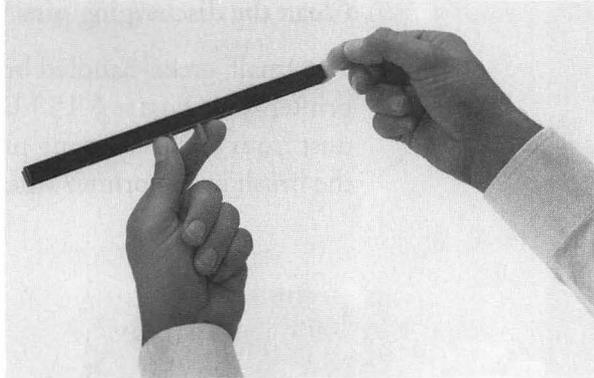

Figure 6-12 Removing the felt tip
5. Remove and discard the white felt tip. (See Figure 6-12.)